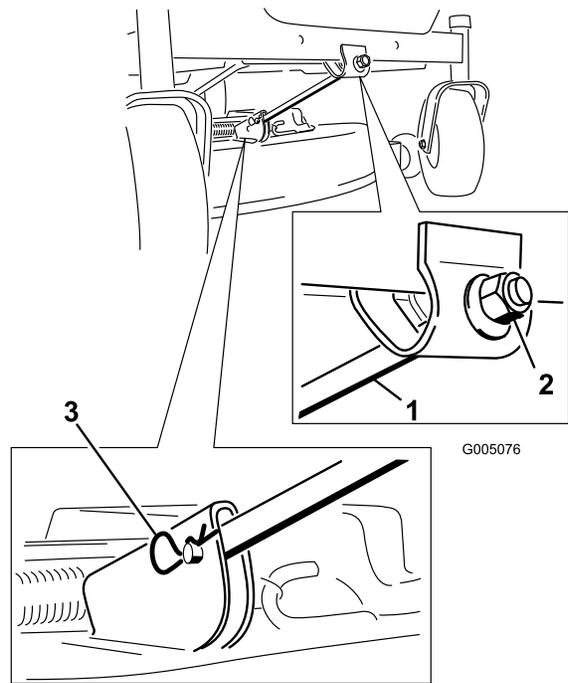

Figure 51
4. Remove the hairpin cotter and clevis pin from the front support rod (Figure 51). Carefully lower the front of the mower deck to the ground.
6. Attach the front support rod to the mower deck with the clevis pin and hairpin cotter (Figure 51).